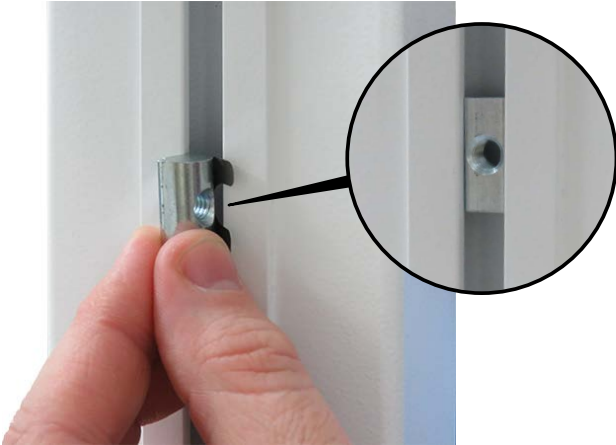

Figure 1. Insert the T-Nut
2. Press the T-nut into the slot on the carrier and rotate it into position (Figure 1).
2. Press the T-nut into the slot on each side of the rear outlet channel, and rotate it into position (Figure 1).
2. Press the T-nut into the slot on each side of the shelf track channel, and rotate it into position (Figure 1).